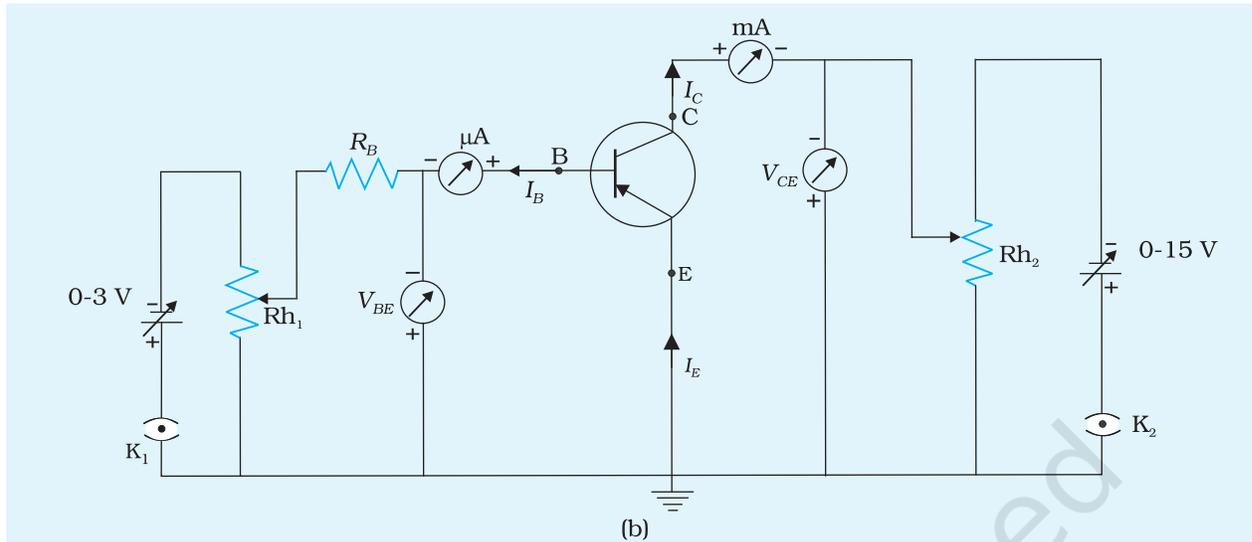

Fig. E 18.3 Circuit diagram for studying the characteristics of (a) n-p-n transistor (b) p-n-p transistor, in CE configuration
The characteristics of a transistor when the emitter is kept as a common terminal and grounded, the base as input terminal and the collector as output terminals, are called common emitter characteristics. Fig.E 18.3 (a) and (b) show the
2. Connect the circuit as shown in Fig. E 18.3. (Note that the base-emitter junction is forward biased and the collector-base junction is reverse biased. For example, in an n-p-n transistor; base is given a + ve voltage w.r.t. emitter. Also collector is given a high + ve voltage w.r.t. emitter.)